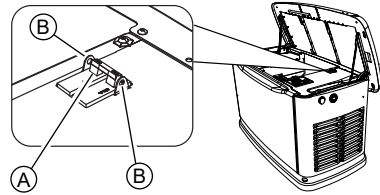

Figure 3-4. Main Line Circuit Breaker (MLCB) 001810
See Figure 3-4. This is a 2-pole main line circuit breaker (MLCB) (generator disconnect) (A) rated according to relevant specifications.